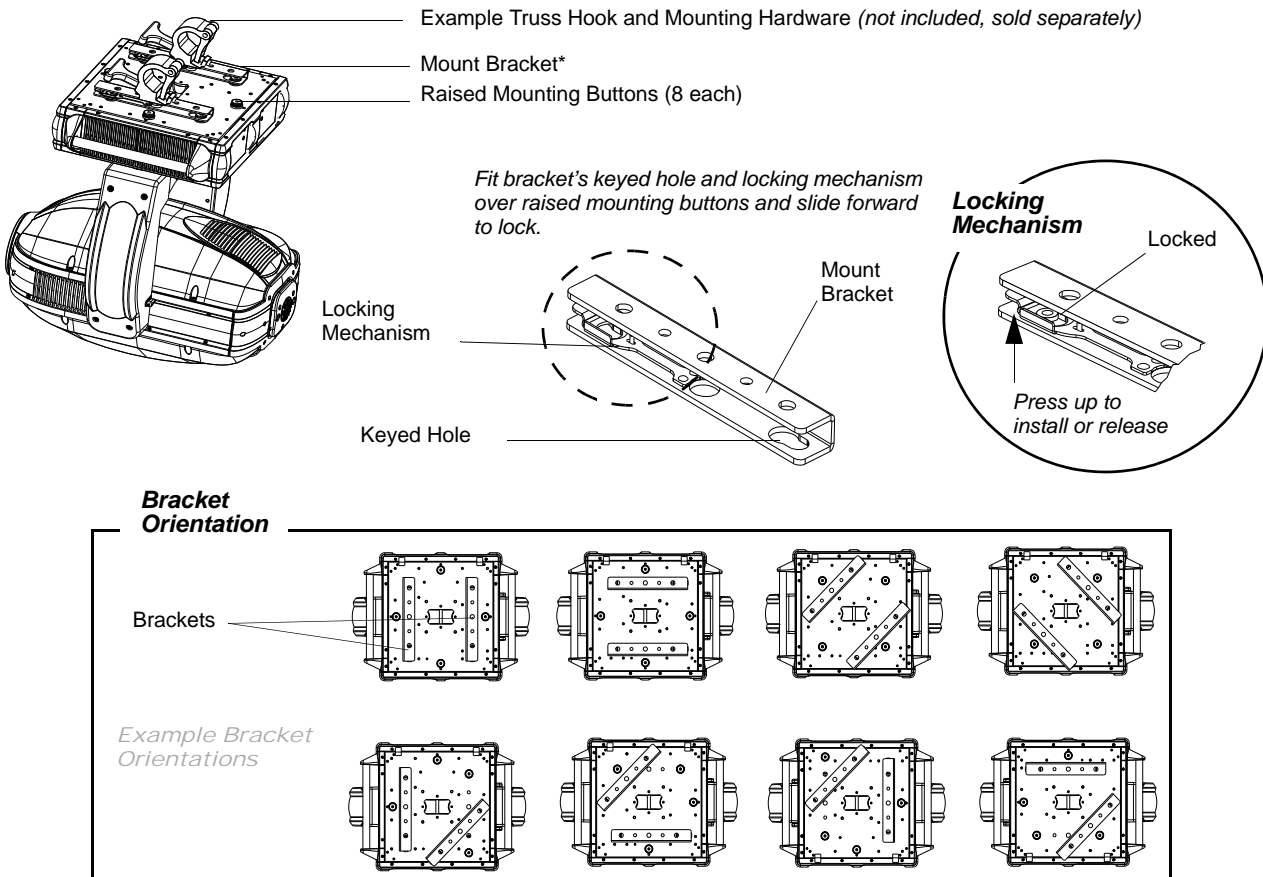

Figure 2-8: Installing Brackets on Luminaire Enclosure
- Step 2. Determine required configuration of bracket installation. Brackets may be installed in many different orientations as shown in Figure 2-8 on page 22.